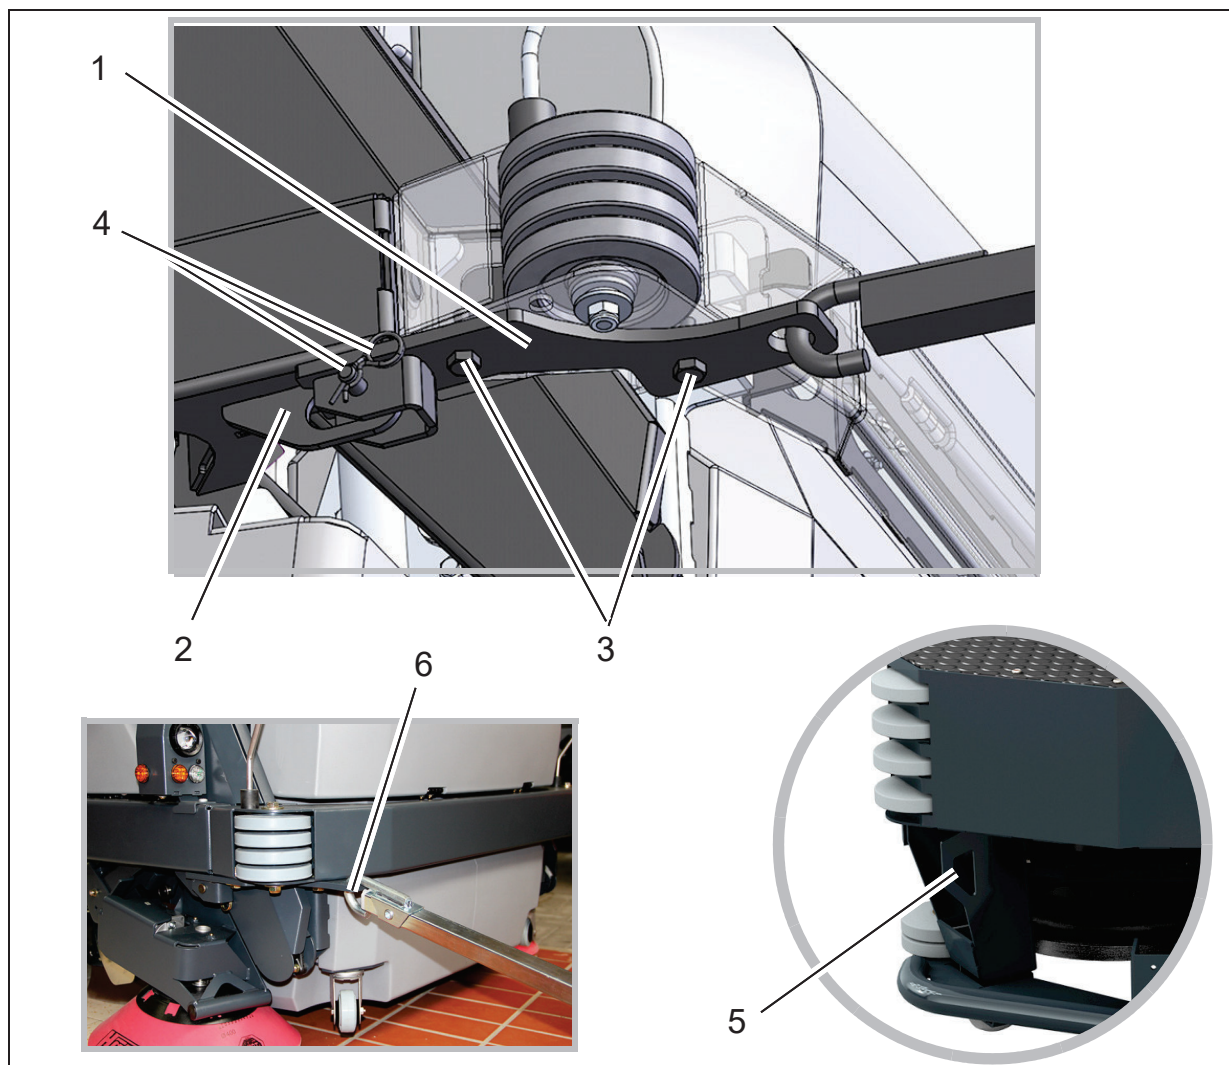

Fig. 4
1. Slide the towing coupling (Fig. 4/1) over the tab (Fig. 4/2) underneath the bar according to the illustration.
2. Attach the towing coupling with both M12x35 hexagon head bolts (Fig. 4/3) and secure it with the bolt and the split pin (Fig. 4/4).
The towing coupling must not be installed at the front of the Scrubmaster B400 R. In this case, the attachment point (Fig. 4/5) is used.
3. Attach tow bar (Fig. 4/6).